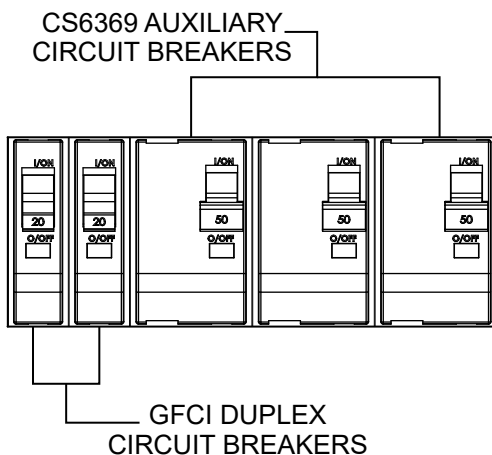

Figure 64. GFCI and Auxiliary Circuit Breakers (OFF)
4. Place the **GFCI and auxiliary circuit breakers** (Figure 64) in the **OFF** position.